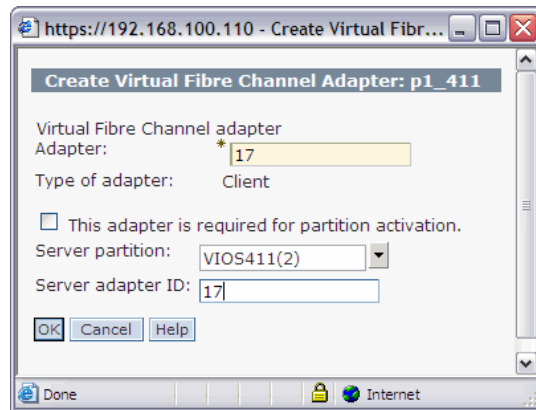

Figure 7-8 Define virtual adapter ID Values
- c. Enter the virtual slot number for the Virtual Fibre Channel client adapter. Then select the Virtual I/O Server partition to which the adapter may be assigned and enter the server adapter ID, as in Figure 7-8. Click **OK**.